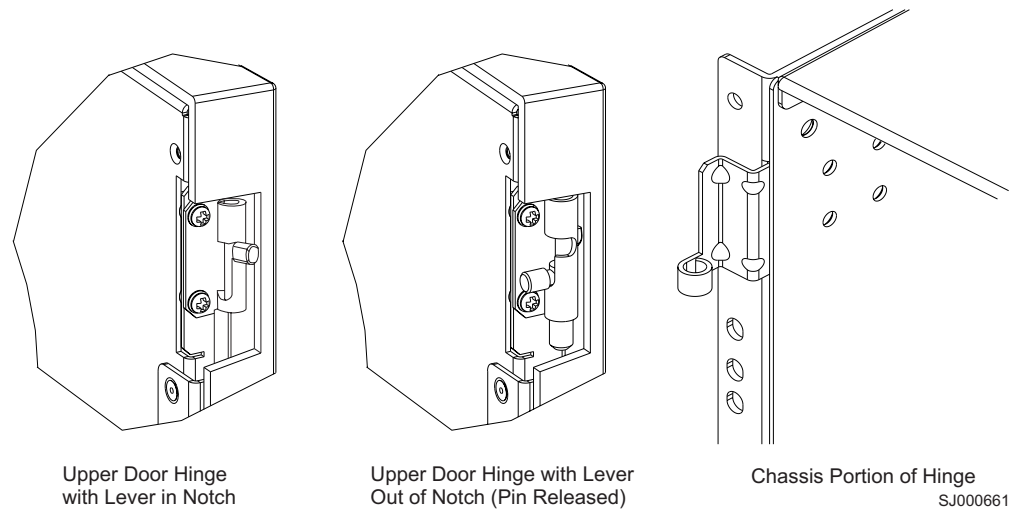

Figure 15. Reinstalling the chassis door
21. Reinstall the door after you put the chassis in place. See Figure 15 on page 23.